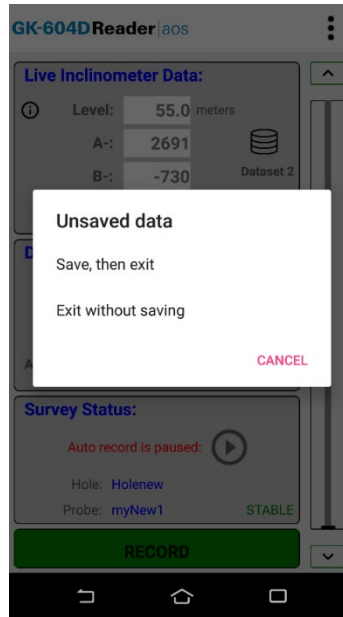

Figure 30: Unsaved Data Prompt
- 10) When done taking readings, tap the “Back” button to dismiss the Live Readings screen. The application will detect if readings have been recorded and if so, an opportunity to save the readings will be presented to the user (see Figure 30)
- If “Exit without saving” is selected from the Unsaved Data Prompt (Figure 30), the readings will be saved to a temporary database table and can be restored the next time “Live Readings” is entered.
- If “Save, then exit” is selected from the Unsaved Data Prompt (see Figure 30), then the readings will be saved to the database and the survey will be saved with the name given to it in the Survey Metadata Settings (see Section 5.1.1, Survey Metadata topic). If no name was entered in the Survey Metadata Settings, the survey will be saved using a three-digit numerical suffix combined with the “Hole” name. For example, if there were four previous surveys saved for a hole with the name of “HL123_Dam75”, the new survey would be named: “HL123_Dam75_005”.